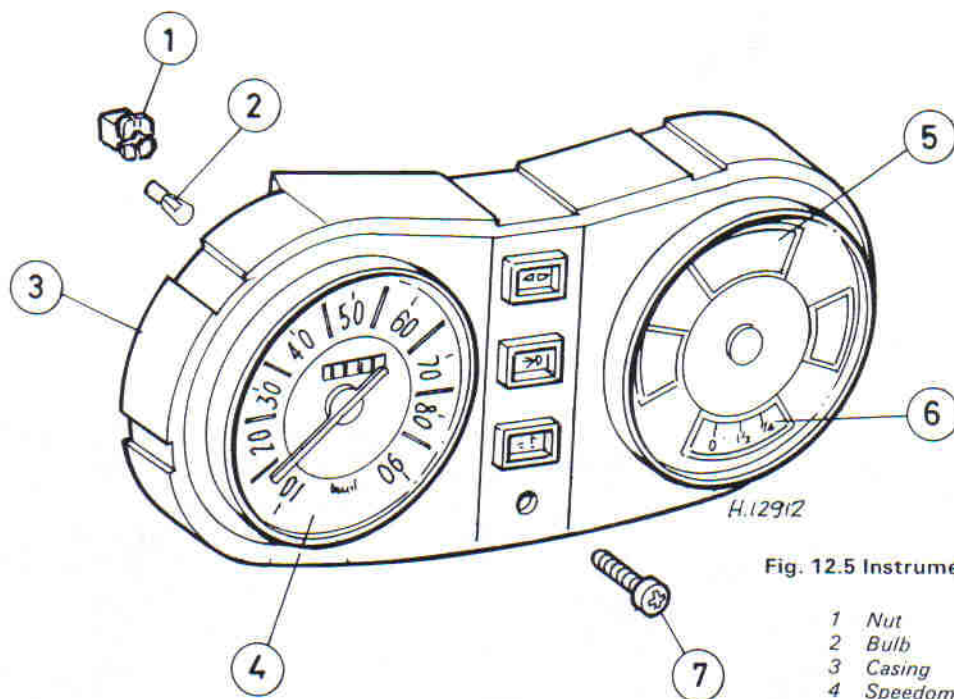

Fig. 12.5 Instrument panel on a 3/4/5 series model (Sec 27)
- 4 If the system fails to operate correctly, check the fuses in the fuse box (refer to Fig. 12.5) before renewing the control unit.